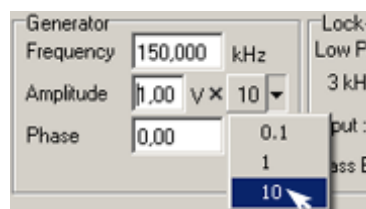

Fig. 3-10
- a. On **Generator** panel select the gain for **Amplitude** parameter equal to 10 (Fig. 3-10);